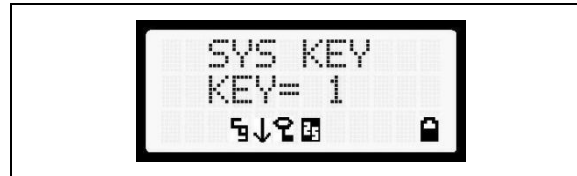
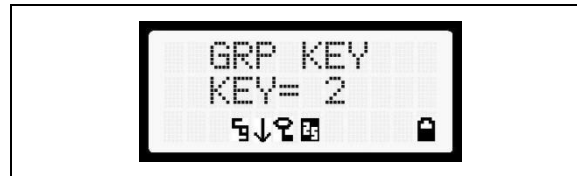

Figure 7-8: System Encryption Key Display
Figure 7-9: Group/Channel Encryption Key Display
3. Use the **[▲]** or **[▼]** button to toggle between displaying the system key (Figure 7-8) or the group/channel key (Figure 7-9).